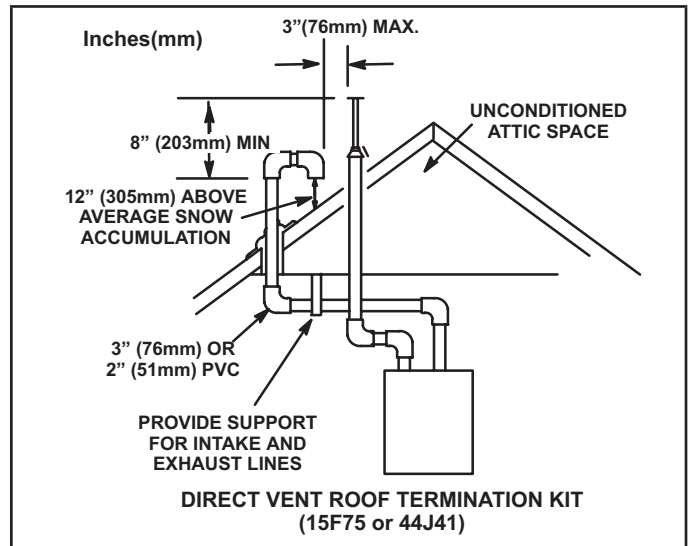

FIGURE 37
Intake and exhaust pipes may be routed either horizontally through an outside wall or vertically through the roof. In attic or closet installations, vertical termination through the roof is preferred. FIGURE 37 through FIGURE 44 show typical terminations.
- 3 - On roof terminations, the intake piping should terminate straight down using two 90° elbows (See FIGURE 37).